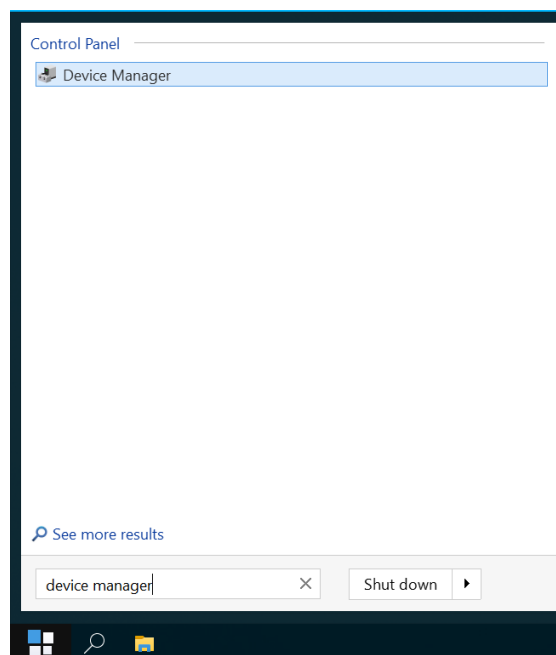

Figure 17: Search for Device Manager
10. Open the Start menu and search for **Device Manager**. Select **Device Manager** to open. Refer to Figure 17.